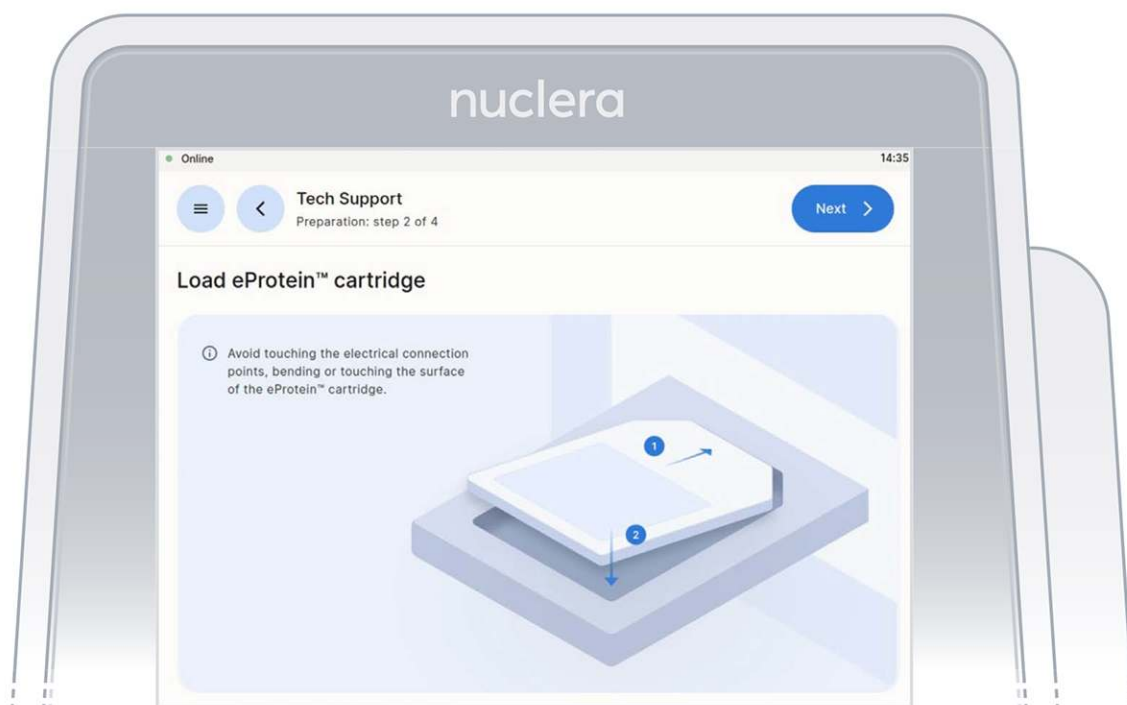

Figure 10: Checklist screen before the experiment starts.
7. Place the cover on the cartridge, avoid touching the electrical connectors, and press the [Next] button (Figure 10).